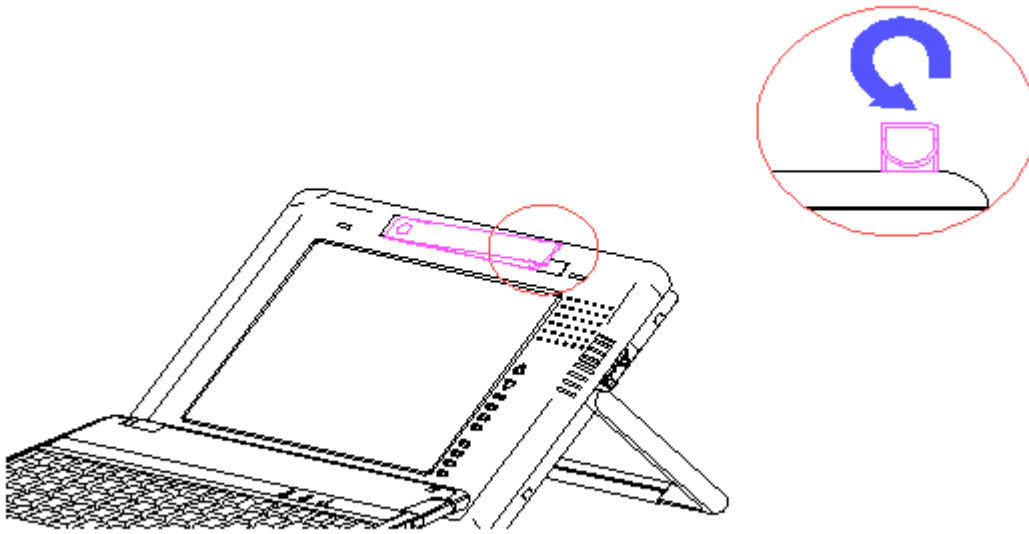

Figure 3-15. Removing the Pen Park
2. Open the pen park, and using a twisting action, (Figure 3-15), remove the pen park.